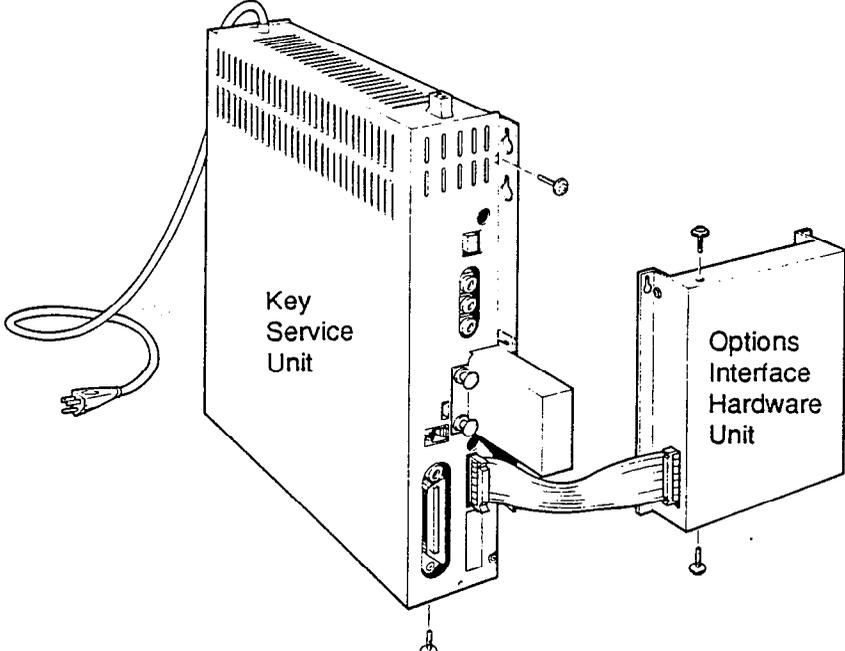

Figure 3-3 Connecting the Ribbon Cable
- Step 7. Plug one end of the supplied ribbon cable into the port that you uncovered in Step 6. Refer to Figure 3-3 to locate the correct port on the KSU. The connector fits into the port only one way. Don't attempt to force the connector into the port.